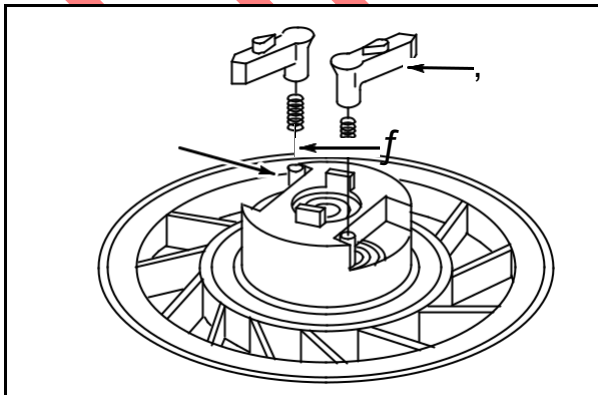

Fig. 62
Position springs (3) over posts in pulley (1). Install dogs (2), **Fig. 62**.